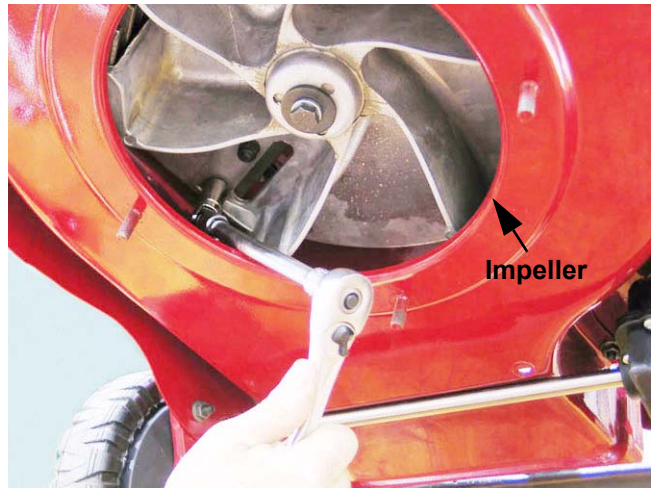

Figure 5.5
- 5.5. The nuts on the flat head cap screws can be reached using a 1/2" socket, universal, and extension. See Figure 5.5.